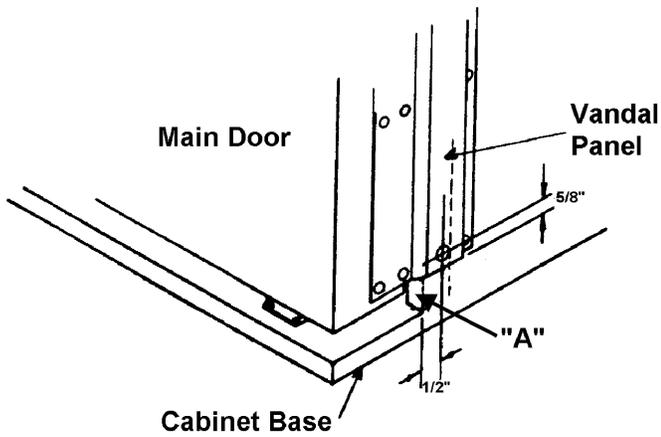

Figure 3
1. Locate the cabinet flange that begins at the cabinet base. See "A", figure 3.
2. Scribe a vertical line on the base $\frac{1}{2}$ " from the edge of the flange as shown in figure 3.
4. Extend the vertical line upward on the vandal panel as shown in figure 3.